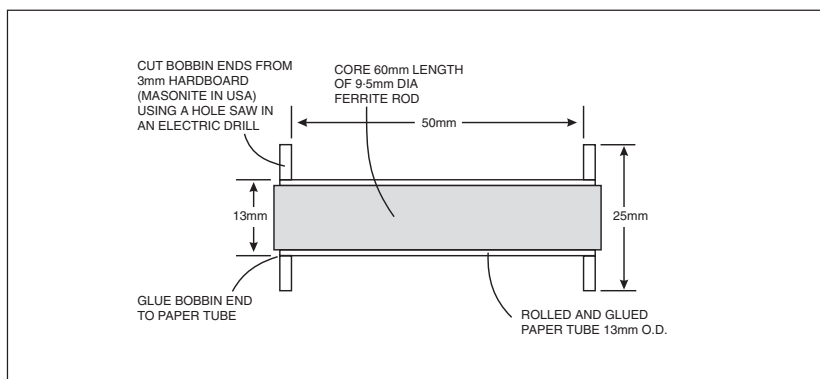

Fig.4. Inductor bobbin construction details.
Bobbin construction is illustrated in Fig.4. Winding details for the inductor values likely to be encountered are given in Table 4.
- L1 9.5mm (3/8in.) dia. ferrite rod, length 63mm (2½in.); card, hardboard and glue for bobbin. Enamelled copper wire: Crossover only – 100 turns 20 s.w.g. (19 a.w.g.). Crossover and Filter – 200 turns 22 s.w.g. (21 a.w.g.). See Fig.4 and text